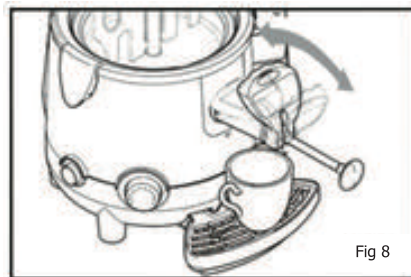

Fig 8
- With the machine switched on, empty out all of the product still inside the bowl, using the lever on the tap (Fig 8).